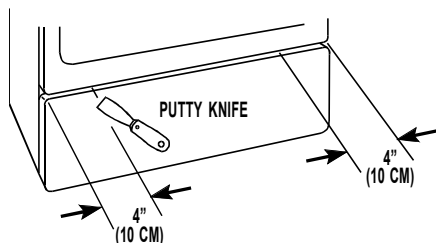

FIGURE 2
- a. If the panel is rectangular, remove lower access panel by releasing two (2) locking clips with a putty knife. The clips are located 4" (10 cm) in from each side of the top of the access panel. See Figure 2.
- b. If the panel is curved, remove lower access panel by removing the two (2) screws located in the lower left and lower right corners of the panel.